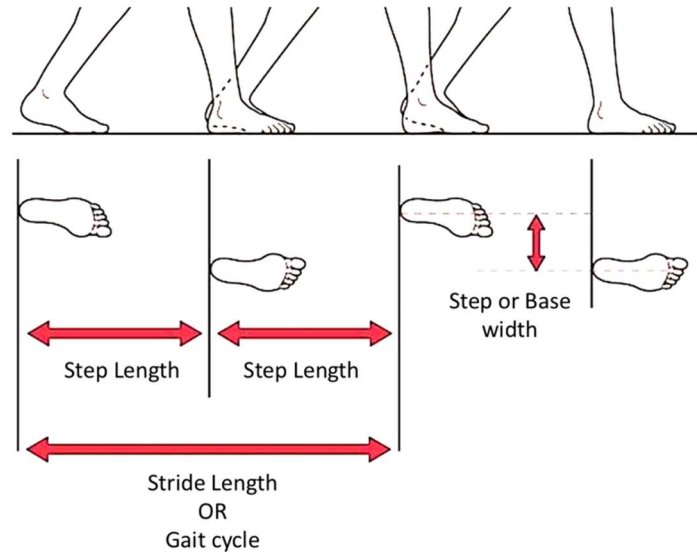

Figure 2: Gait Cycle, Step length and Step width.
- The spatial descriptors of gait are *Stride Length* (distance between two consecutive initial contacts of the same foot), *Step Length*, and *Step Width* as represented in Fig 2 and defined in Table 1.